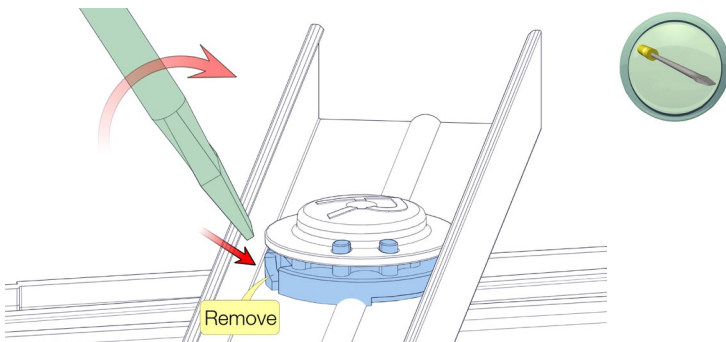

Fig. 23.3.1-1.2
2. Remove both living hinges from bearings using a flat screwdriver. *Refer to Figure 23.3.1-1.2.*